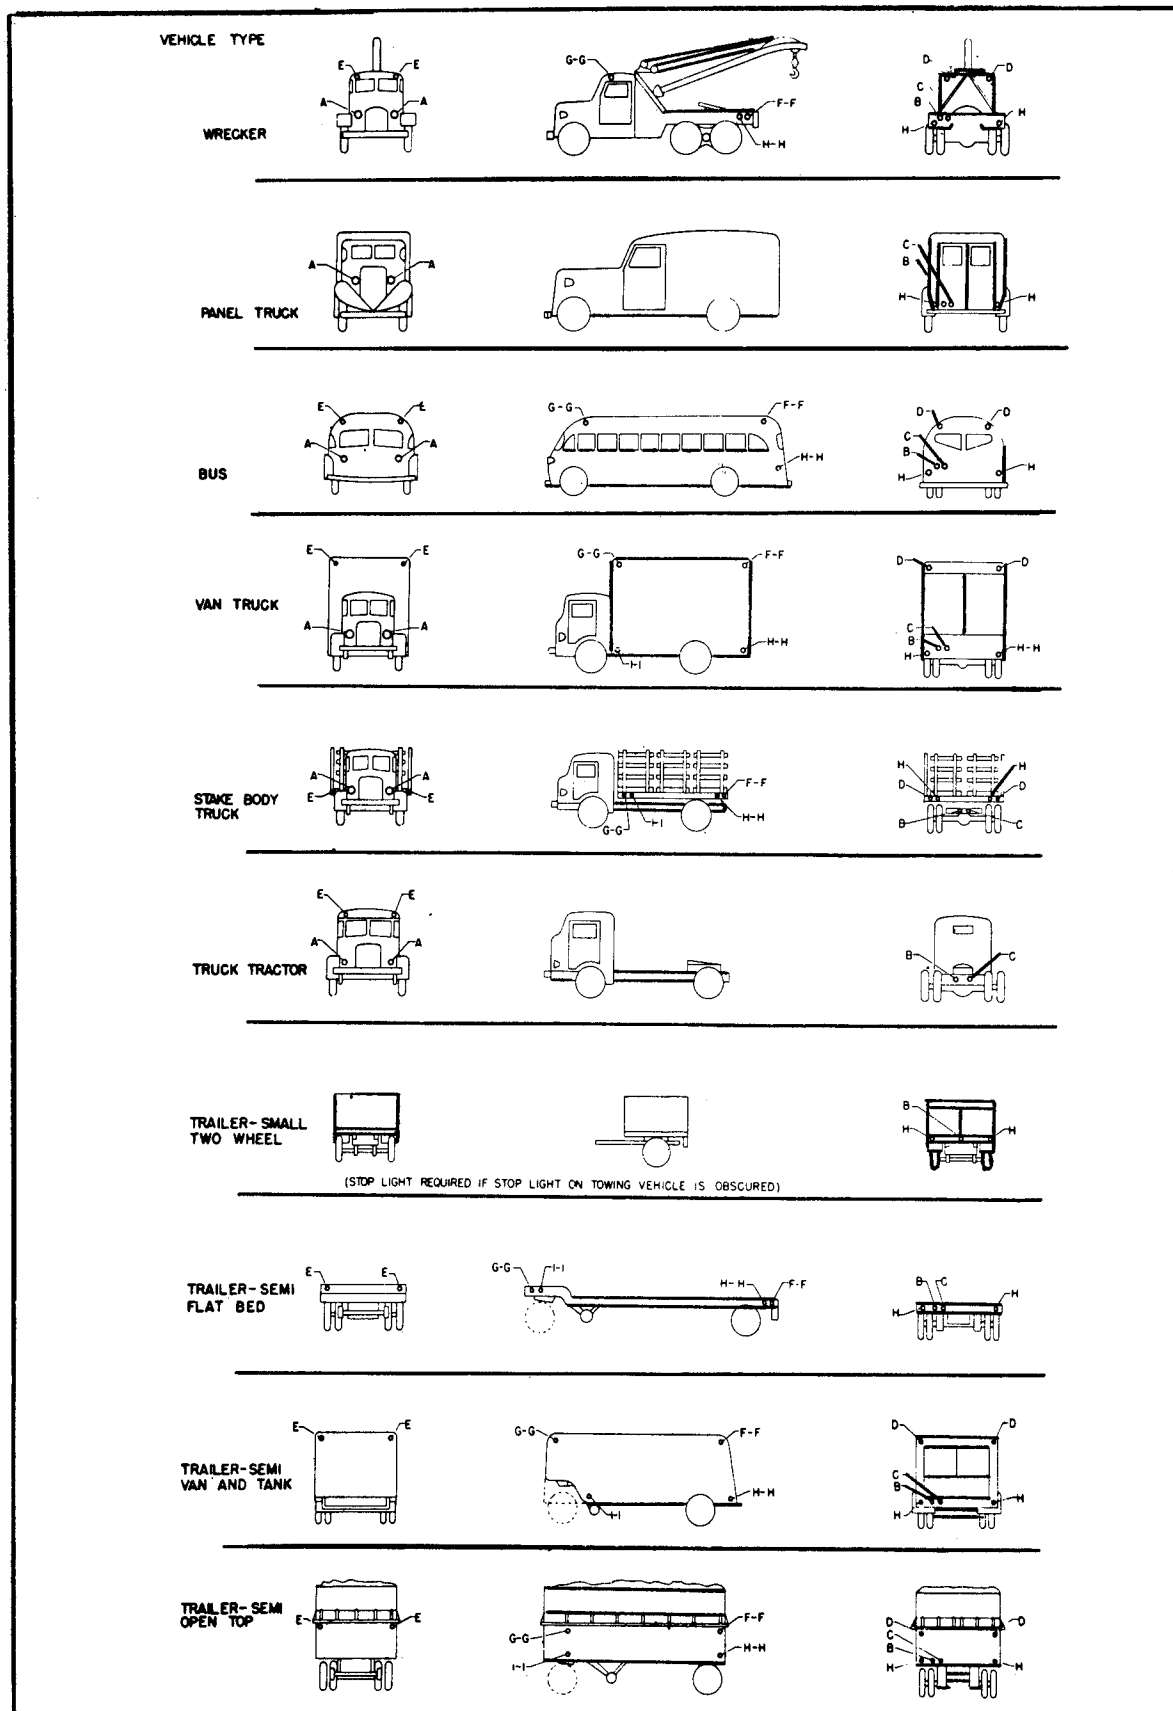

Figure 6-1. Types of Vehicles
d. The following legends represent the lights, reflectors, and markers which may be required on all types of vehicular equipment (see figure 6-1):
- (1) A - Head Lamp
- (2) B - Red Tail Light
- (3) C - Red or Amber Stop Light
- (4) D - Red Clearance Lamp
- (5) E - Amber Clearance Light
- (6) F - Red Side Marker
- (7) G - Amber Side Marker
- (8) H - Red Reflector
- (9) I - Amber Reflector
b. **REFLECTORS** - All reflectors indicated in figure 6-1 will be in accordance with Ordnance drawing number B161059. Reflector installation on vehicles will not exceed a height of 60 inches and should be not less than 24 inches above the ground on which the vehicle stands. On vehicles which are so constructed as to make compliance with the 24 inch requirement impractical, lower mountings may be used.